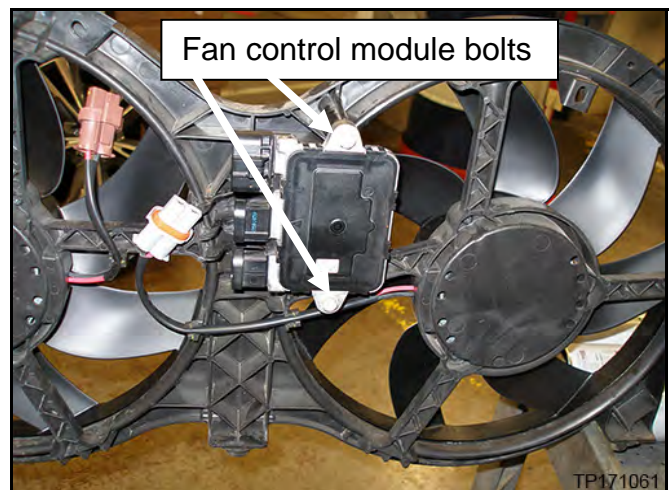

Figure 11
**NOTE:** Refer to Figure 11 for fan control module location (radiator shroud and cooling fan assembly removed from vehicle for clarification).